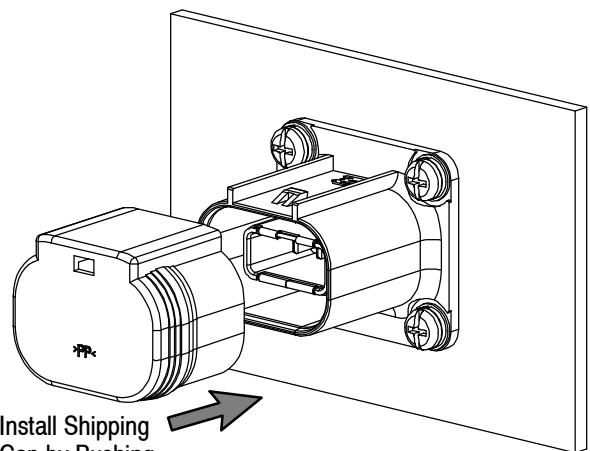

Figure 9
6. *Optional:* Assemble the shipping cap 1587733-1 onto the header assembly until it fully locks to the outer housing as shown in Figure 9. Shipping cap cannot be used with 2103200-[].